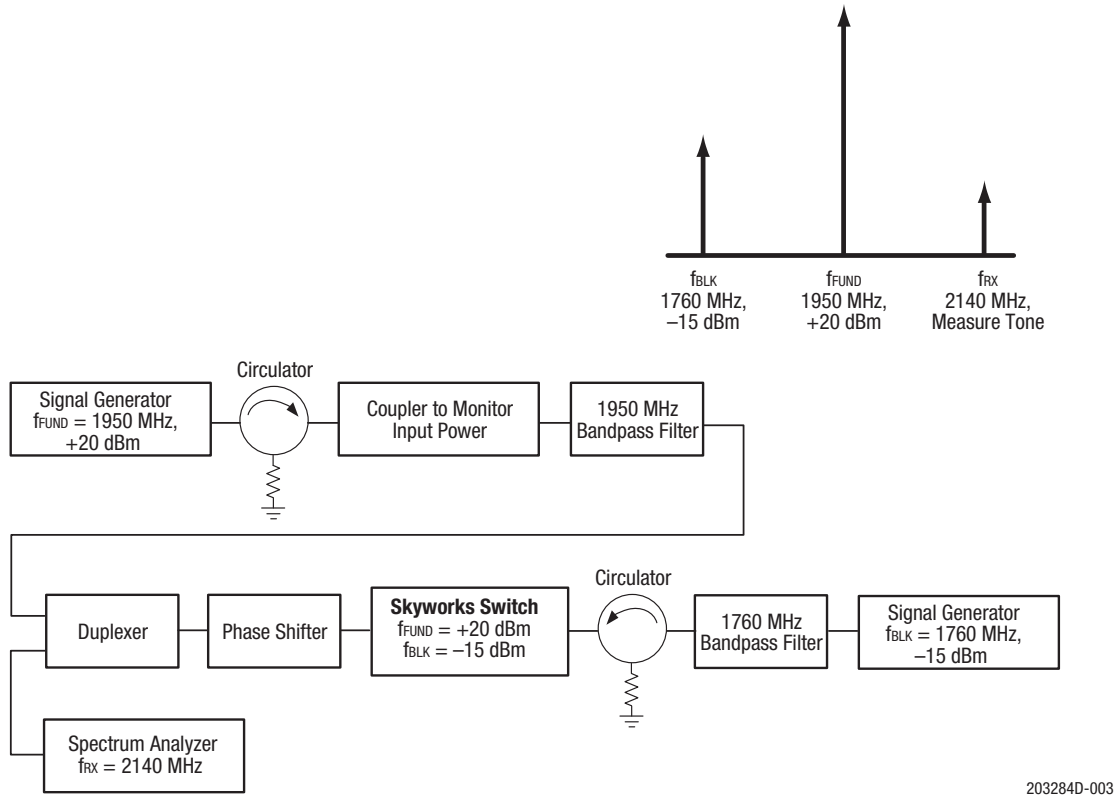

Figure 3. Typical Third Order Intermodulation Test Setup
Figure 3 illustrates the test setup used to measure intermodulation products. This industry standardized test is used to simulate the WCDMA linearity of the antenna switch. A +20 dBm Continuous Wave (CW) signal,  $f_{\text{FUND}}$ , is sequentially applied to the TRX ports, while a –15 dBm CW blocker signal,  $f_{\text{BLK}}$ , is applied to the ANT port.